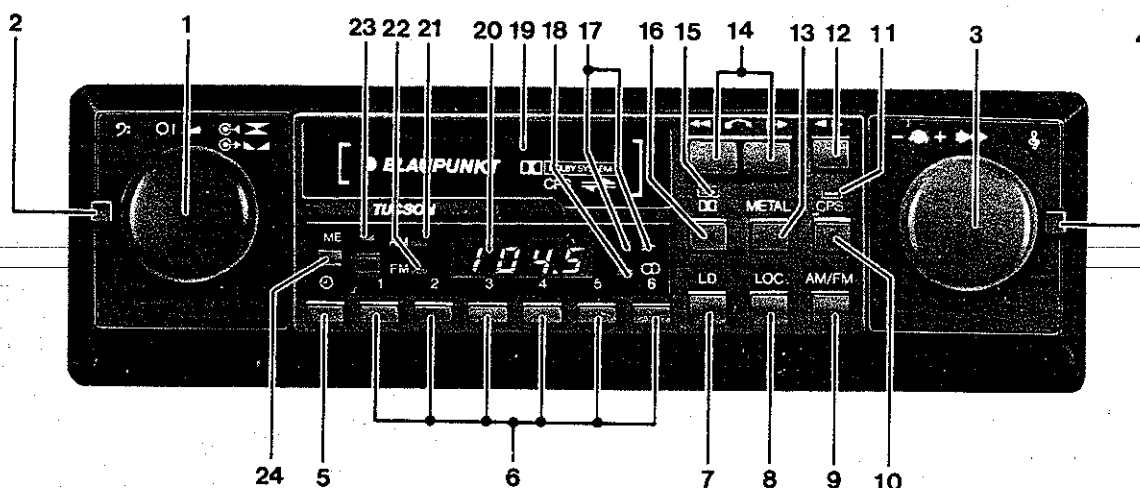

Figure 2-14. AM/FM Stereo Tuner/Cassette Player
1. **Power and Sound Controls** — These controls, shown in figure 2-14 and described in the Cassette Deck section, are used in the radio mode as well. (See preceding section on Controls, paragraphs 2 through 5, for power **ON/OFF**, volume balance, fader, bass and treble controls, and paragraph 11 for the loudness LD control. The FM/Stereo light (18) will go **ON** when stereo radio is **ON**.)
2. **To Select waveband** — Press **IN** the AM/FM button (9) to get FM, and press to release for AM (button **out**). The appropriate AM or FM light (21 or 22) on the left side of the glass dial will indicate the selected waveband.
- I. **Manually** — Turn the tuning knob (3) to left or right and **release**, to change frequency by steps. To scan frequencies, **turn** the knob to left or right and **hold**. It starts slowly, then increases speed of scan. In either method, the clock dial will indicate the frequency.